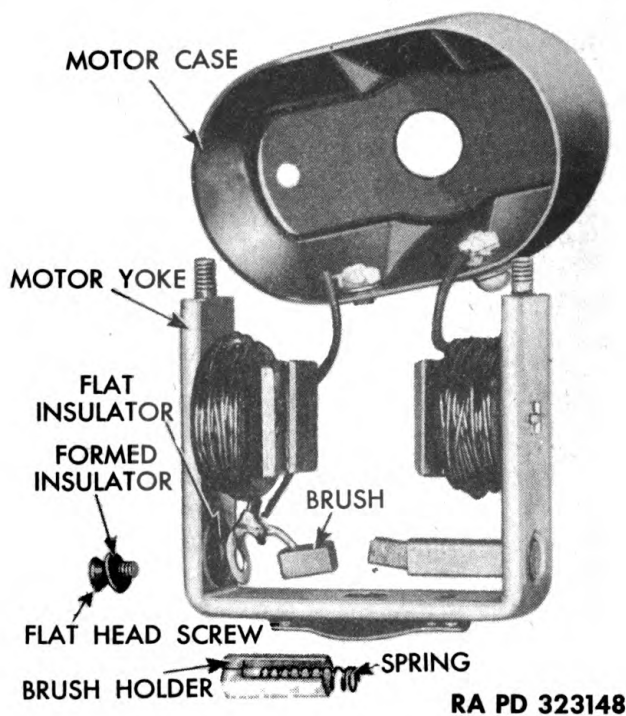

Figure 149 — Siren Motor Brush Holder and Spring Removed
d. Remove Brush Holder and Spring (fig. 149). **NOTE:** *Do not disturb these parts if inspection and tests show they are in good condition.* Remove flat head screw and formed insulator attaching brush holder. Remove brush holder and spring from brush, and lift off flat insulator.
- a. **Install Brush Holder and Spring** (fig. 149). Insert brush spring and brush in holder. Attach brush holder to motor yoke by installing flat-head screw. Make sure the flat insulator is between holder and yoke, and the formed insulator is under screw head. Repeat operation if second brush holder is removed.